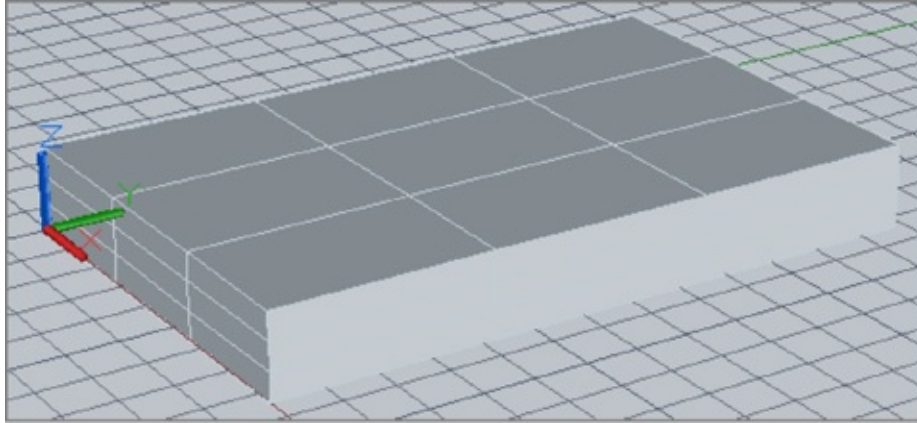

FIGURE 23.3 The Mesh Box primitive
4. At the Specify height or [2Point]: prompt, place your cursor anywhere above the base of the mesh and enter **4** ↵ for a 4 unit height. You now have a basic shape for your mesh (see Figure 23.3).